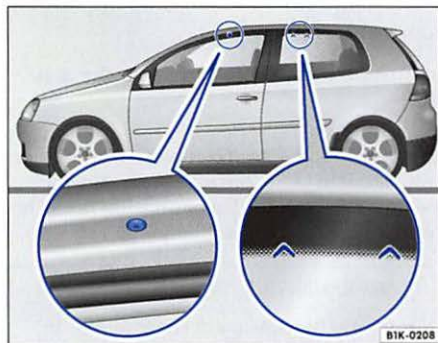
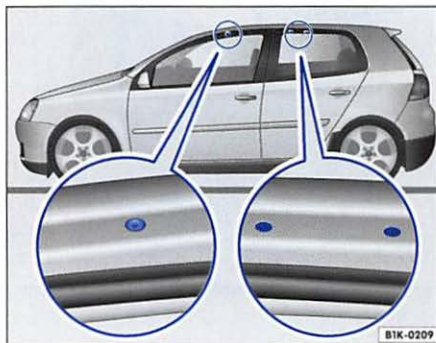

Fig. 71 Attachment points for 2-door vehicles
Fig. 72 Attachment points for 4-door vehicles
Front: The attachment holes are located on the underside of the roof rails ⇒ fig. 71, visible with the door open.
Rear: The markings are located above the rear side windows ⇒ fig. 71.
Front: The attachment holes are located on the underside of the roof rails ⇒ fig. 72, visible with the door open.
Rear: The markings are located on the underside of the roof rails ⇒ fig. 72, visible with the door open.
- Always attach the roof rack securely and only at the mounting points shown in the illustrations ⇒ page 72, fig. 71 and ⇒ page 72, fig. 72. ◀
- Always attach the roof rack securely and only at the mounting points shown in the illustrations and ⇒ page 72, fig. 71 and ⇒ page 72, fig. 72.